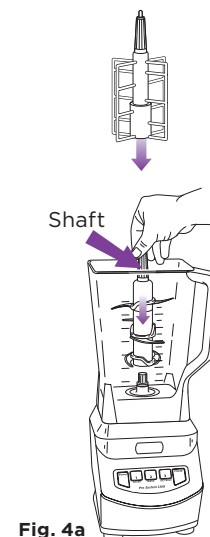
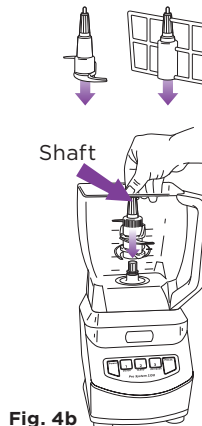

Fig. 4a
Fig. 4b
- 5 Place either the 6-Blade assembly or the whipping attachment into the pitcher. (Fig. 4a) Place either the 4-Blade assembly, dough blade or dough paddle into the bowl. (Fig. 4b) Holding the attachment by the shaft, place it onto the gear shaft inside the container. Ensure that the attachment fits snugly around the gear shaft and that it is standing straight.